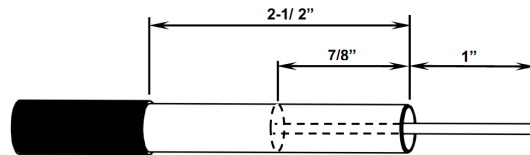

Fig. 2
**1. Cut ends of cable square.** If cable has outer jacket, remove jacket to expose cable outer conductor approximately two and one-half inches, as shown in Figure 2. If cable has a flooding compound, remove flooding compound from cable outer conductor using an approved cleaner, in accordance with the cable manufacturer recommendations.
**2. Core cable and expose the center conductor** using a commercially available core / strip tool as shown in Figure 2.